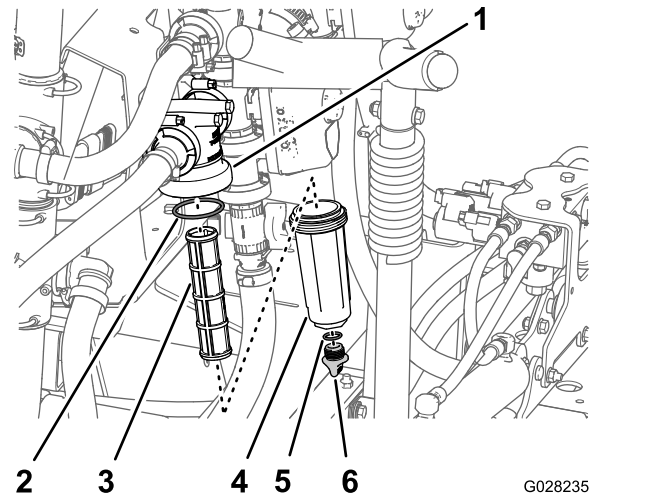

Figure 48
2. Align a drain pan under the pressure filter (Figure 48).
3. Rotate the drain cap counterclockwise and remove it from the bowl of the pressure filter (Figure 48).
4. Rotate the bowl counterclockwise and remove the filter head (Figure 48).
5. Remove the pressure filter element (Figure 48).
7. Check the gasket for the drain plug (located inside the bowl) and the gasket for bowl (located inside the filter head) for damage and wear (Figure 48).
8. Install the pressure filter element into the filter head (Figure 48).
9. Install the bowl onto the filter head, and tighten by hand (Figure 48).
10. Assemble the drain cap onto the fitting at the bottom of the bowl, and tighten the cap by hand (Figure 48).